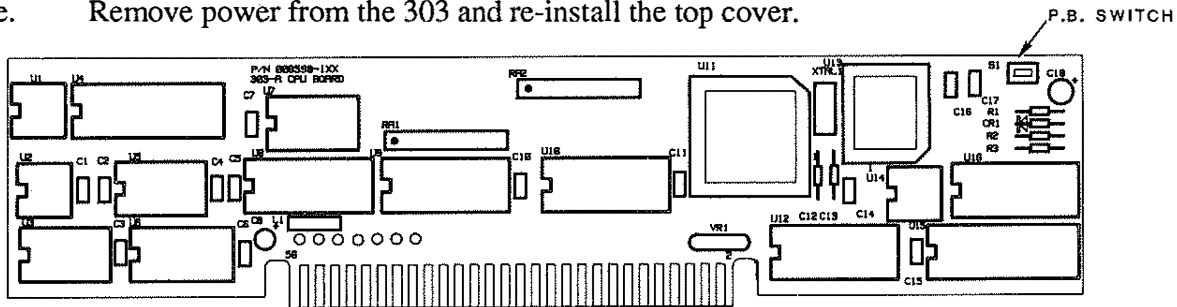

Fig. 2-2 Security Code Push Button
If you need to reprogram the security code for servicing or because you cannot remember the present code, there is a second way to reprogram the code by pushing a switch on the upper right hand corner of the CPU board, (as viewed from the front of the 303) (see Fig. 2-2). To use this push button switch, perform the following procedures.
- c. Turn the 303 power on, and depress the push button switch on the CPU board. See Fig. 2-2 for location.